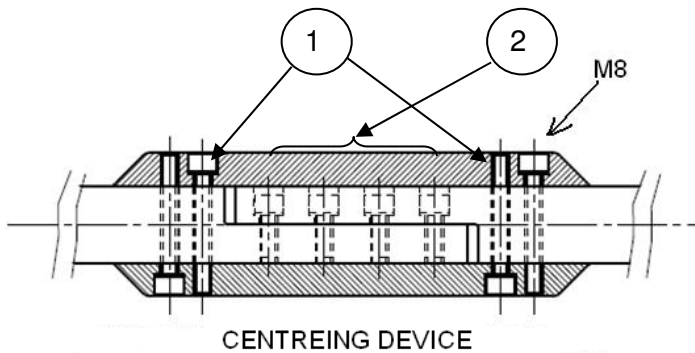

Fig 20
The central rod is provided with some devices (fig. 20), suitable both to centring and to strengthening the very long central rod itself.
- 1) Unscrew the 4 M8 screws (1) placed on the centring and connection device (fig 20);